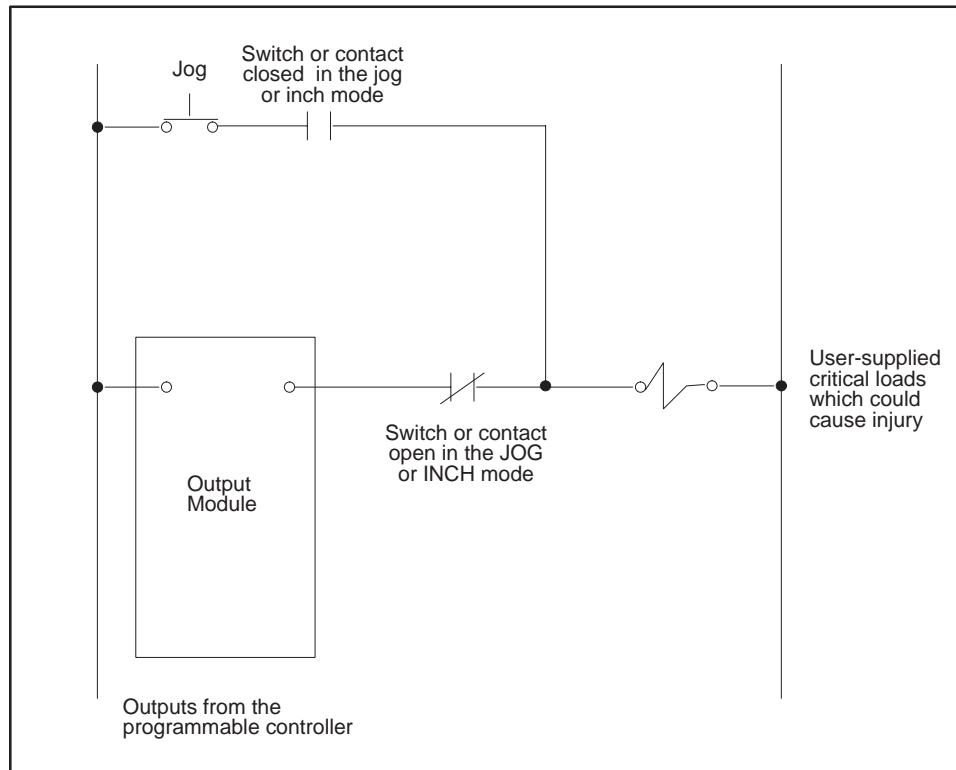

Figure 2-3 JOG or INCH Switch
- Bypass the programmable control system with an external JOG or INCH switch during machine loading or setup operations. See Figure 2-3.